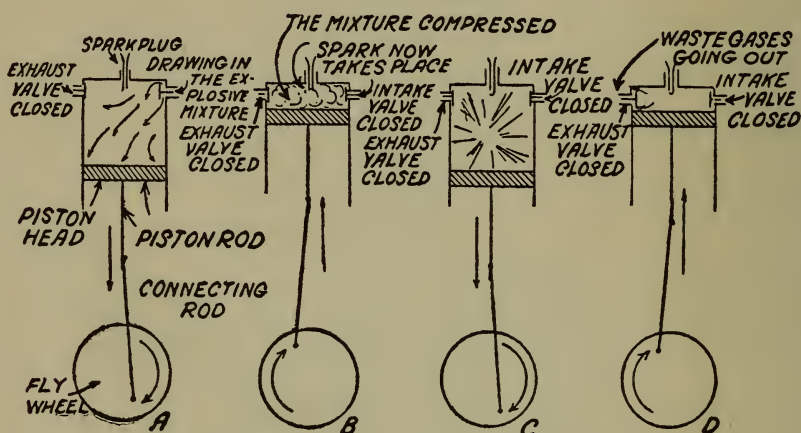

Fig. 80. How the Gas Engine Works
**How the Gas Engine Works.**—The way a single cylinder gas engine works can be easily understood by looking at the diagrams shown in Fig. 80.
When these engines are finished ready to run the No. 0 sells for \$15.00; the No. 1, for \$20.00, and the No. 2 for \$30.00. The engine is shown in Fig. 80.